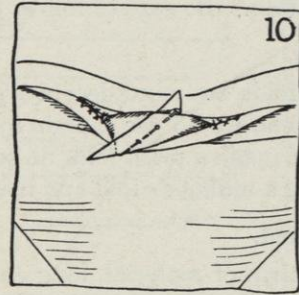

FIG. 10.
- (5) Pin the seam so that the raw edges face the brim (see Figure 10). The pinned piece should make the bias just the size necessary to finish up the fold and to sew it into place.
- (6) Sew seam with combination stitch.
- f. Finish sewing the rest of the fold, as shown in Sections 3 d (1) and (2) (page 88).